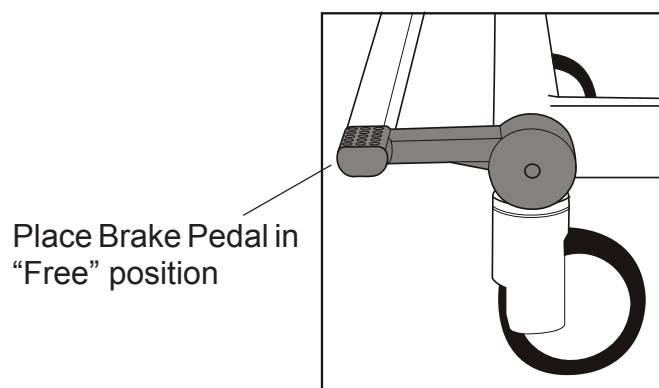

Fig. 9 - Free Position
2. Check that the brakes are unlocked and the brake pedal is in the "Free" position. (See Fig. 9)